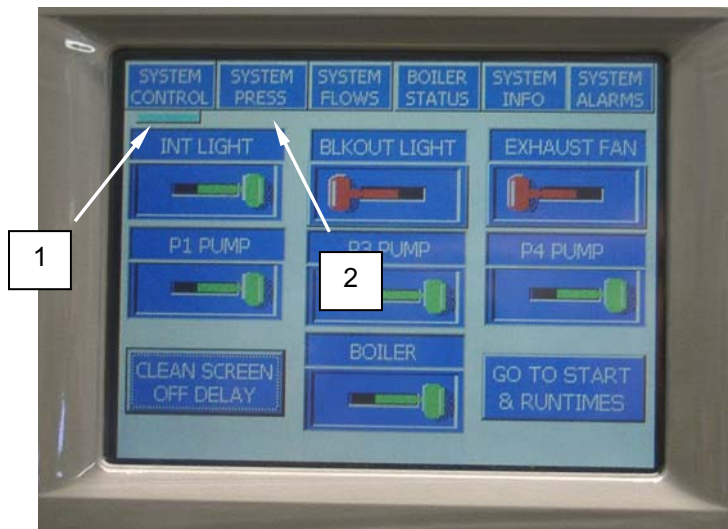

Figure 16. Selecting the System Flows Display.
1. When the PLC is powered up, the System Control display (**Figure 16, Item 1**) is presented. If a SYSTEM FLOWS function is desired, touch the SYSTEM FLOWS tab (**Figure 16, Item 2**) to access the screen. An indicator bar or highlight will indicate that the SYSTEM FLOWS screen is presented.